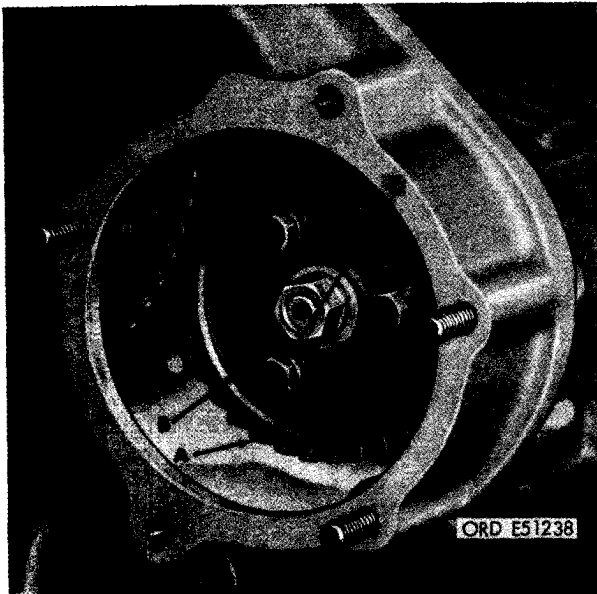

FIGURE 499. INSTALLING FUEL INJECTION PUMP DRIVEN GEAR AND RETAINING PLATE.
- (5) Figure 499. (A) Position fuel injection pump drive gear on fuel injection pump driven gear hub aligning elongated bolt holes in gear with threaded elongated screw holes in hub. The elongated bolt holes allow for adjustment of the gear for precise fuel injection pump timing in relation to engine timing. (B) Position fuel injection pump driven gear retaining plate against driven gear and align bolt holes. (C) Install three 3/8-inch lock washers and 3/8 x 1- 1/4 cap screws to hold retaining plate until injection pump timing has been completed.
Refer to figure 499 and reverse the sequence of instructions to remove fuel injection pump driven gear. It is not necessary to remove injection pump. Check injection pump timing as directed in paragraph a above.
Install fuel injection pump driven gear and retaining plate following instructions for figure 499.